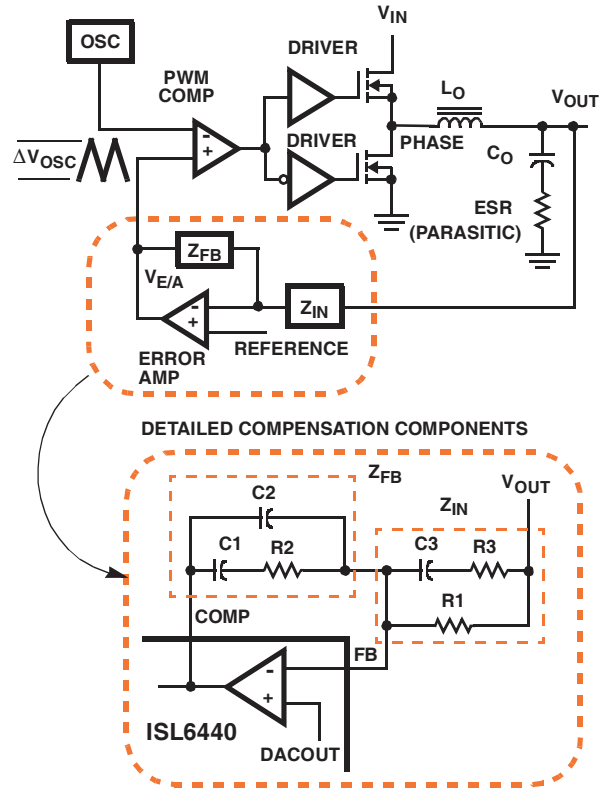
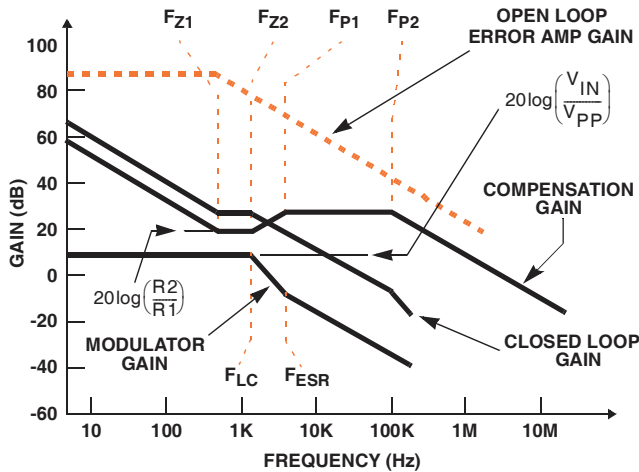

FIGURE 9. VOLTAGE-MODE BUCK CONVERTER COMPENSATION DESIGN
FIGURE 10. ASYMPTOTIC BODE PLOT OF CONVERTER GAIN
Figure 9 highlights the voltage-mode control loop for a synchronous-rectified buck converter. The output voltage (V_{OUT}) is regulated to the reference voltage level. The reference voltage level is the DAC output voltage (DACOUT). The error amplifier (Error Amp) output ($V_{E/A}$) is compared with the oscillator (OSC) triangular wave to provide a pulse-width modulated (PWM) wave with an amplitude of V_{IN} at the PHASE node. The PWM wave is smoothed by the output filter (L_O and C_O).
Figure 10 shows an asymptotic plot of the DC-DC converter's gain vs. frequency. The actual modulator gain has a high gain peak dependent on the quality factor (Q) of the output filter, which is not shown in Figure 9. Using the above guidelines should yield a compensation gain similar to the curve plotted. The open loop error amplifier gain bounds the compensation gain. Check the compensation gain at F_{P2} with the capabilities of the error amplifier. The closed loop gain is constructed on the log-log graph of Figure 10 by adding the modulator gain (in dB) to the compensation gain (in dB). This is equivalent to multiplying the modulator transfer function to the compensation transfer function and plotting the gain.